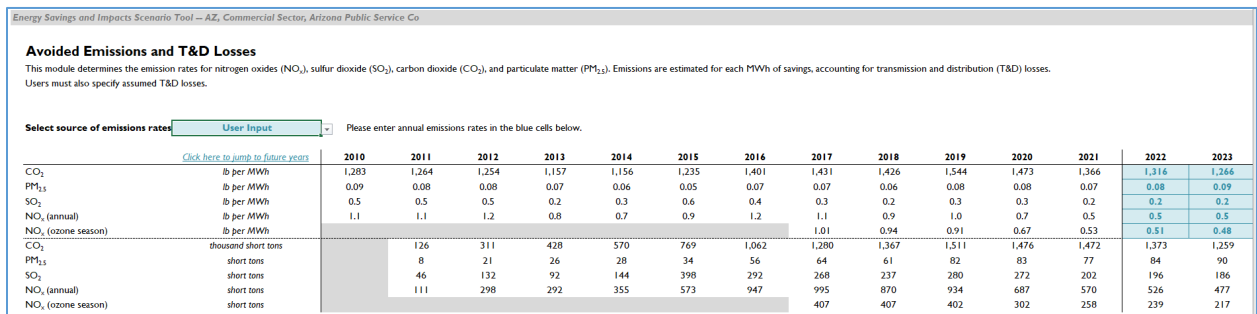

Figure 6. “Avoided Emissions and T&D Losses” table: customizing the emissions rates by choosing “User Input”
- Click the “Select source of emissions rates” blue box and choose “User Input” from the drop-down list (see **Figure 6**, below).